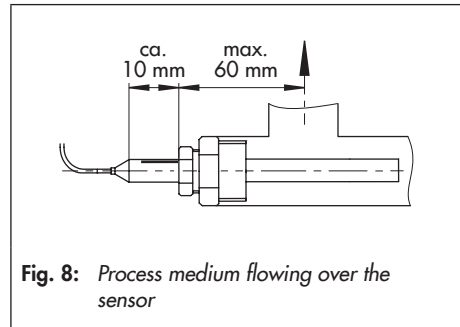

Fig. 8: Process medium flowing over the sensor
- ➔ Make sure that almost all of the process medium being monitored flows around the sensor (of Type 2403). See Fig. 8.